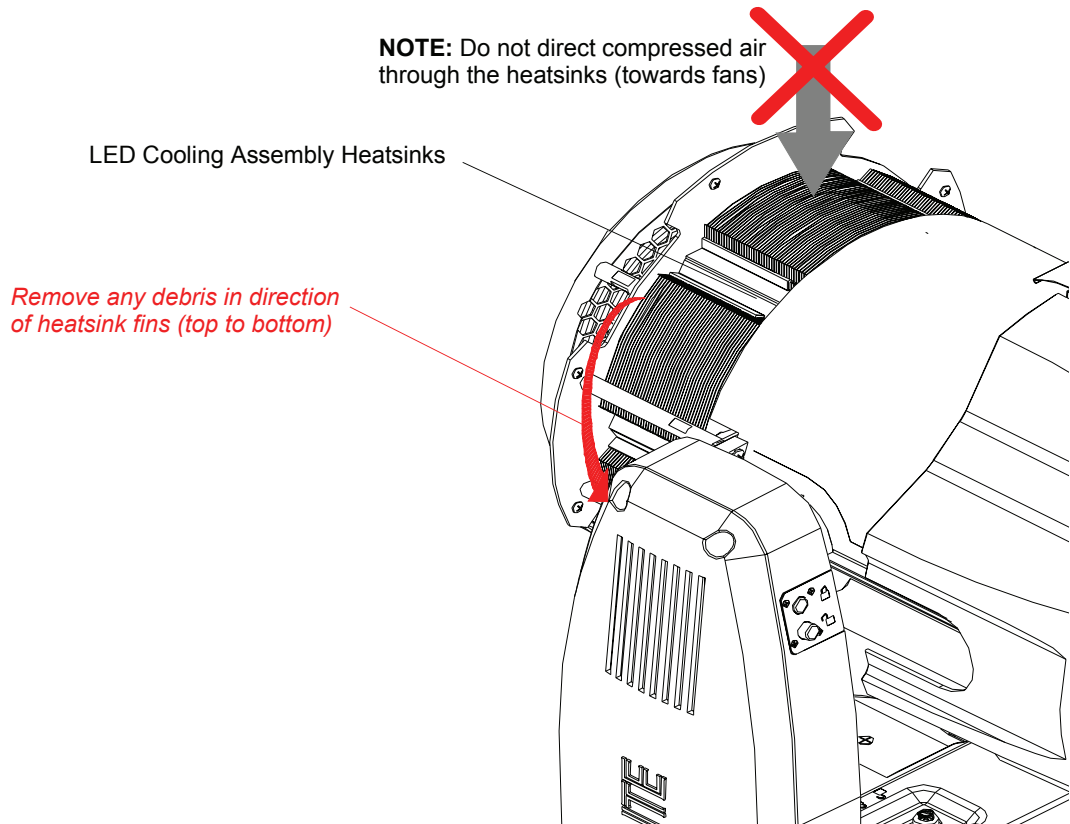

Figure 1-3: VLX Wash Cooling System Heatsink Cleaning
- Step 7. As indicated in **Figure 1-3**, at LED cooling assembly heatsinks, run Mottler brush gently through and in the direction of the heatsink fins from top to bottom so debris will fall down and away from assembly. Care should be taken as not to damage heatsinks.